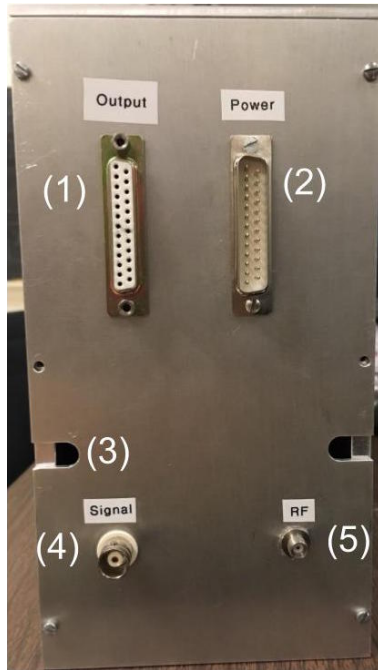
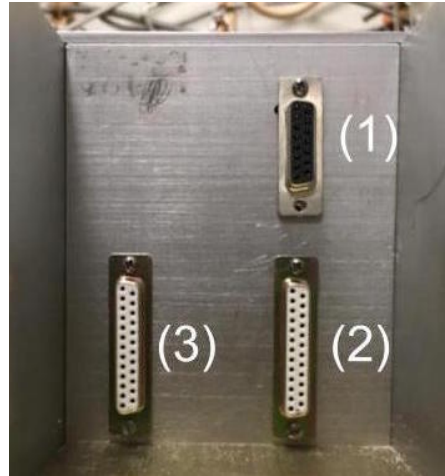
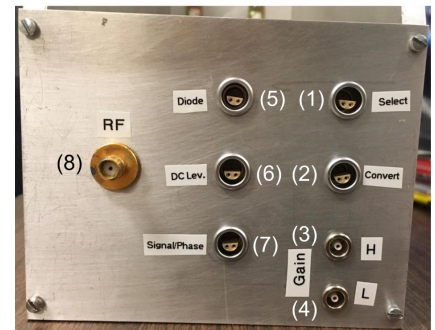

Figure 5.2: Front panel
Figure 5.3: Back panel
Figure 5.4: Middle panel
The Input/Output (IO) Interface of the box consolidates connectors (1) - (6) on the back panel (Figure 5.4) into one 25D connector on the front panel (number (1) of Figure 5.2). This includes (1) Select, (2) Convert, (3) High gain, (4) Low gain, (5) Diode, and (6) DC Level/DC Monitor. The box IO then transfers these signals to the breakout panel. The details of the wiring are given in Table 5.1 (see Ref. [4]). The signal/phase line is wired separately to reduce noise. The RF signal input port, number (5) in Figure 5.2, transfers the RF signal to (8) (Fig. 5.4) on the back panel. The phase signal is treated separately from the other box interfaces. The phase signal, or just the signal, is extracted from a special BNC connector on the front panel (number (4) in Figure 5.2). This is because the signal line must be shielded to reduce noise contamination. The middle panel, shown in Figure 5.3, is where the Q-meter and Yale card are connected to the box. The power input on the front panel is connected directly to (1). This 15D connector delivers power to the Yale card. The two 25D connectors (2) and (3) are wired to each other in a one-to-one manner. These connections, detailed in Tables 5.1, 5.2 and 5.3, connects the Q-meter to the Yale card.